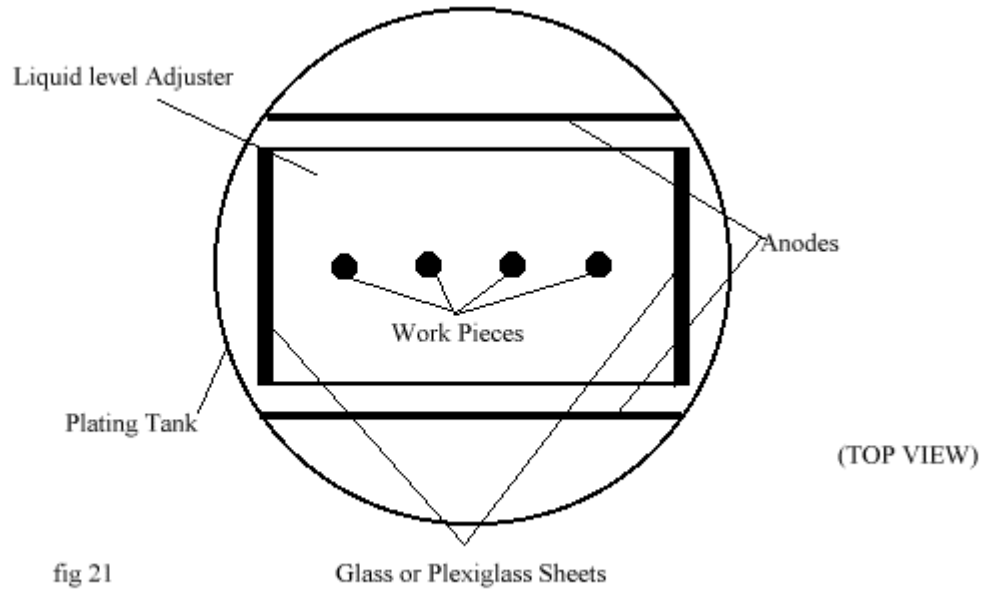
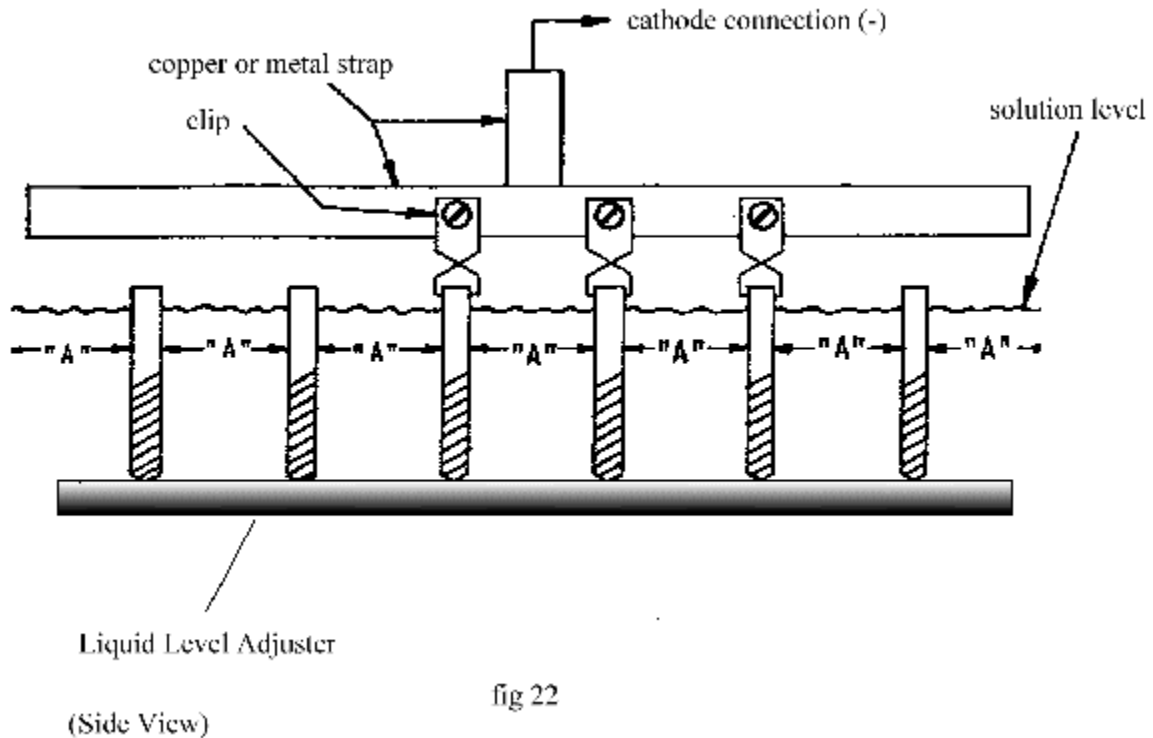
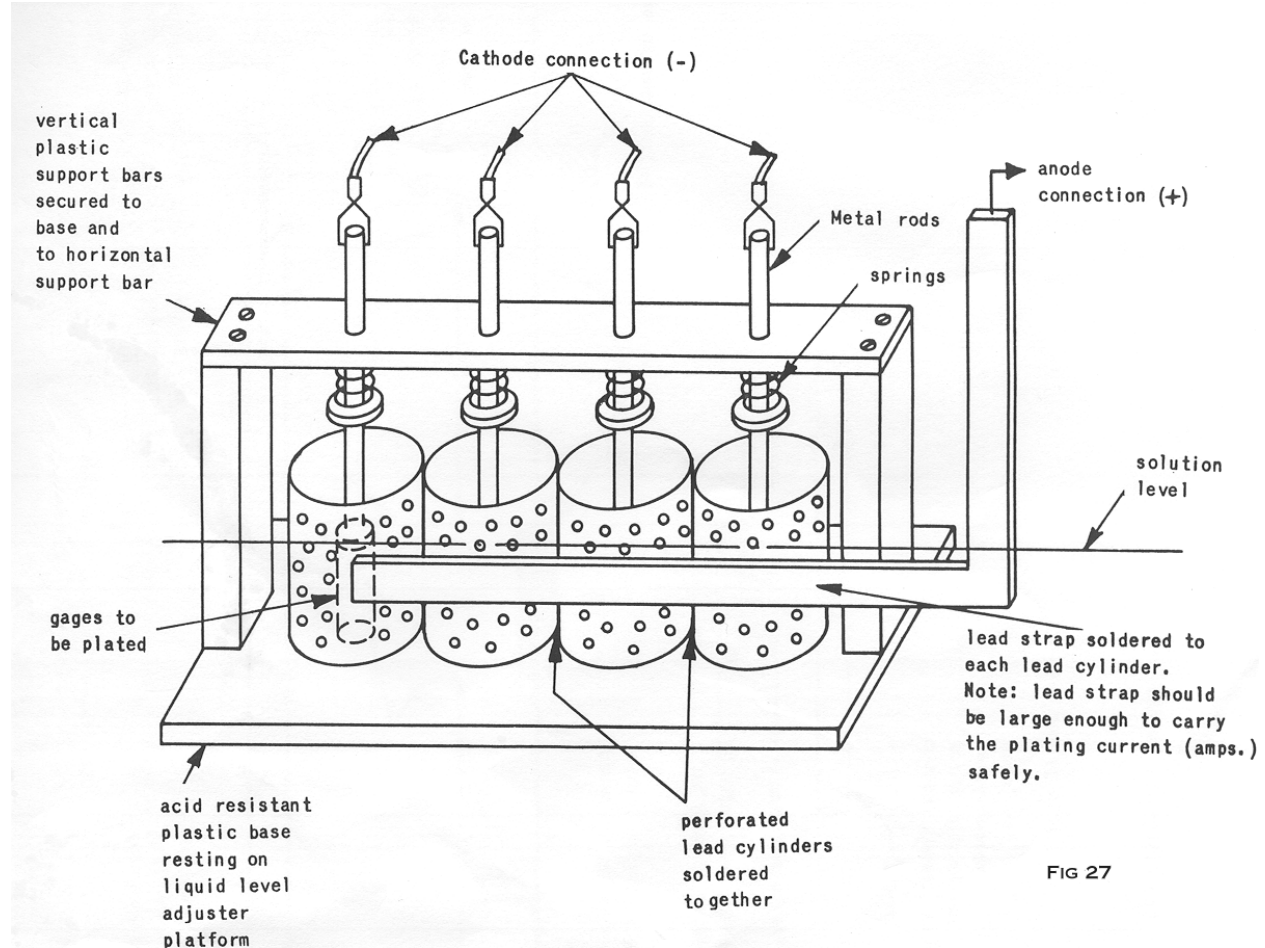

fig 21
fig 22
FIG 27
In Figures 21, 22 & 23 for example, the procedure for plating a number of twist drills or similar objects is shown positioned in a straight line. Note that the Liquid Level Adjuster Platform is positioned to control the horizontal "lines of action" and that the distance between each tool or part ("A" dimension in Figs 22 & 23) should be equidistant from each other or no closer than the maximum nearness as specified in Table 3.
*NOTE In applications where the dimension of the work is over 2", follow procedure as outlined in Figures 21 and 22.
As in the case of inspection gages and parts of extreme close tolerance, it is necessary to Hard Chrome plate with more exacting control when plating a number of parts at one time. Figure 21, and 22, suggests a jig or fixture for plating a number of pin type plug gages at one time where the dimensional tolerance is normally critical. The same principle will apply to other tools or parts in the same dimensional category.
To plate the assembled fixture, as shown in Fig 27, it must rest within the plating tank on the Liquid Level Adjuster Platform. The Liquid Level Adjuster is then adjusted to bring the solution level to a point 1/8" above the top of the gage as in Figure 22.
See fig 27 for complete fixture.